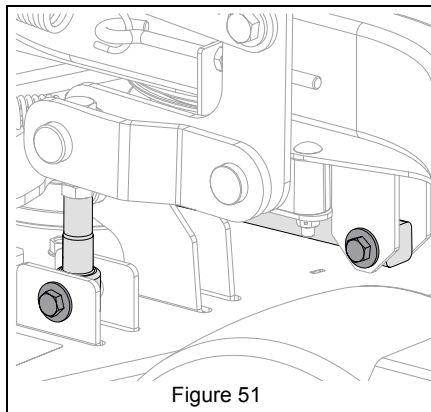

Figure 51
1. Position deck under unit. See Figure 51.